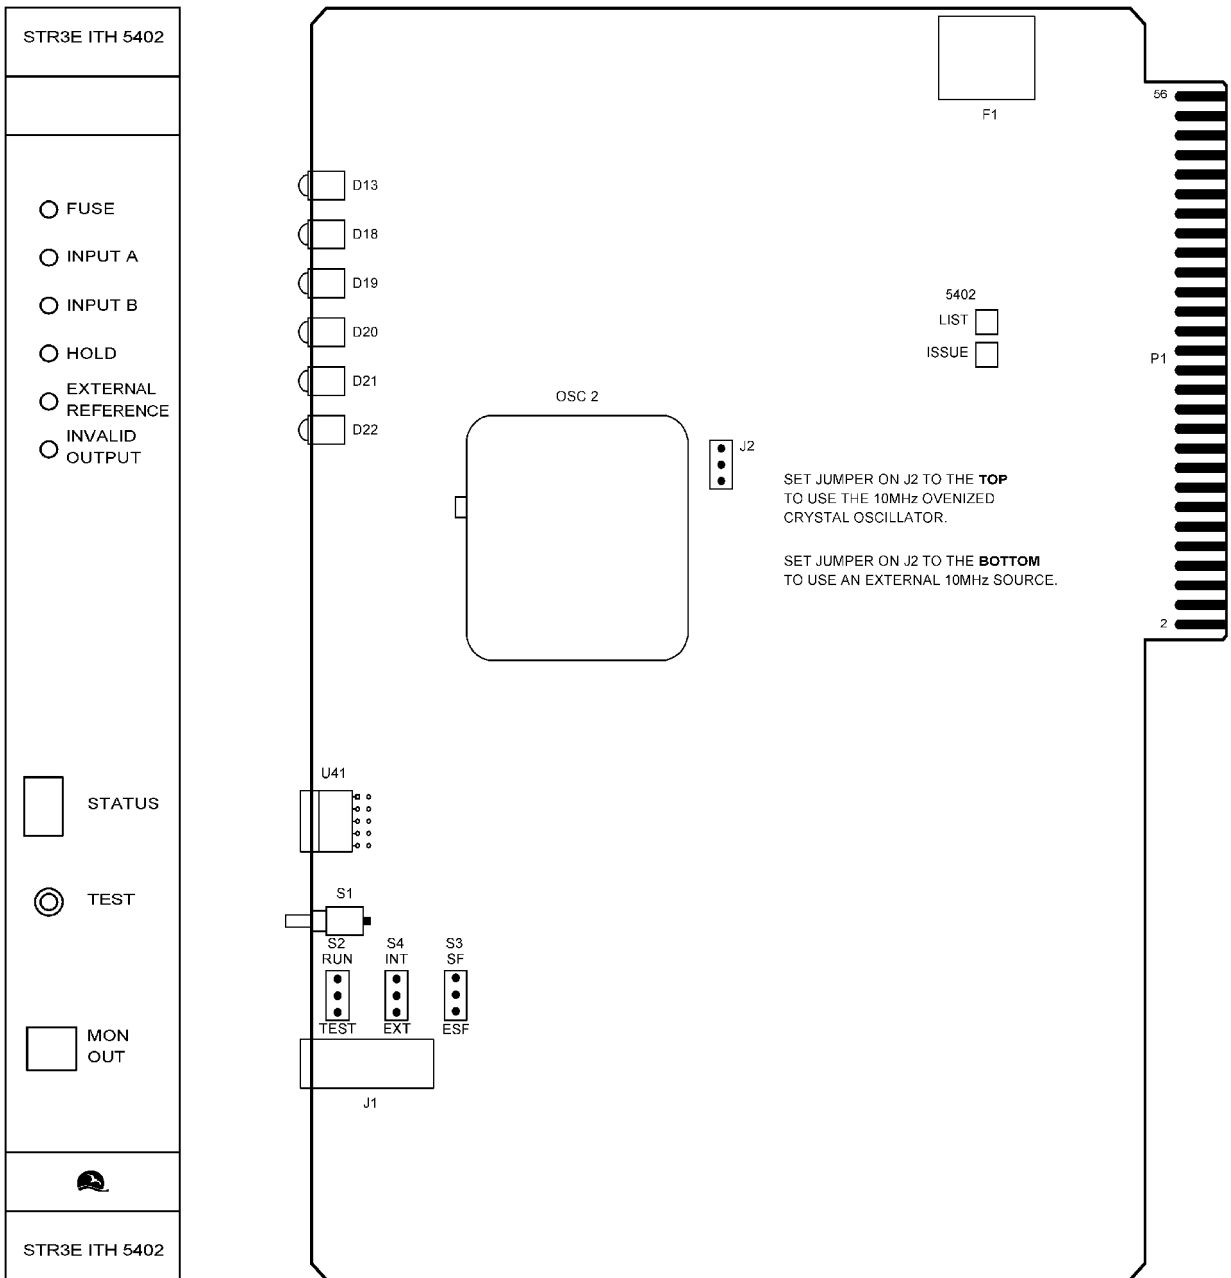

Figure 3-2. Model 5402 Stratum 3E Enhanced Track and Hold Card with Front Panel
3.321 For switch locations and front panel of the Model 5402, refer to Figure 3-2.